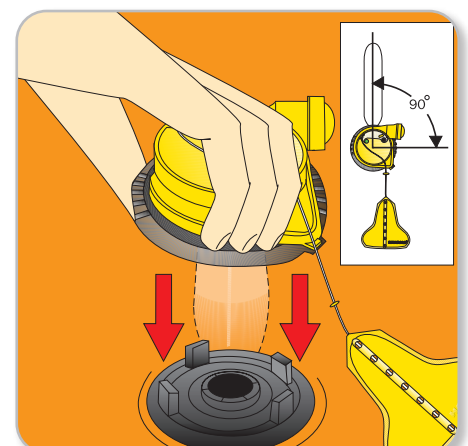

Figure 10
- 7b. Position the replacement cap with the water inlet valve pointing to the right and press it FIRMLY onto the inflator body and sealing ring. (figure 10)